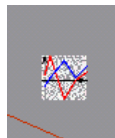

Fig 11.6.6(a)Chart icon
- 3 Fig. 11.6.6.(b) will be displayed.